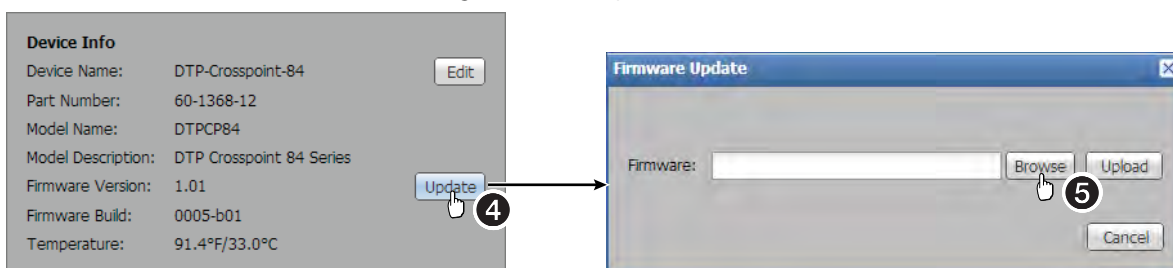

Figure 72. Firmware Update Dialog Box
Click the **Update** button in the Device Info panel (see figure 72) to open the Firmware Update dialog box. The dialog box provides a way to replace the firmware that is coded in the switcher without removing it from the system.
4. Click **Update** in the Device Info panel (see figure 72, above). The Firmware Upgrade dialog box opens.